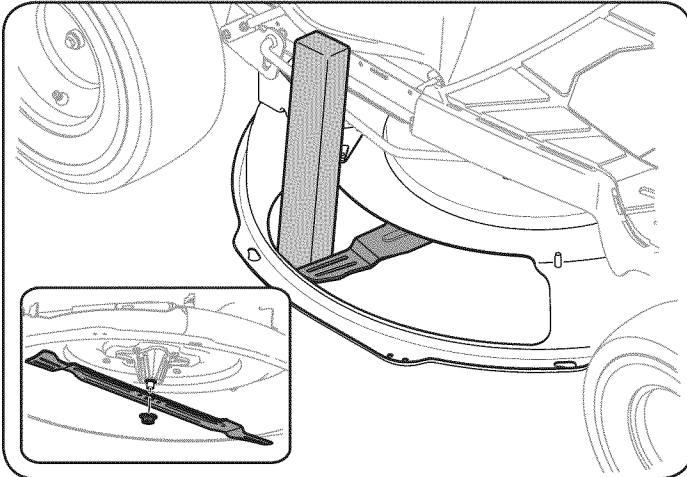

Figure 37
2. Using a block of wood or 2 x 4, insert it into the deck opening and rotate the blade around until it wedges the wood between the deck opening and the cutting blade, as shown in Fig. 37.
3. Remove the hex flange nut that secures the blade to the spindle assembly, and remove the blade. See the Inset of Fig. 37.